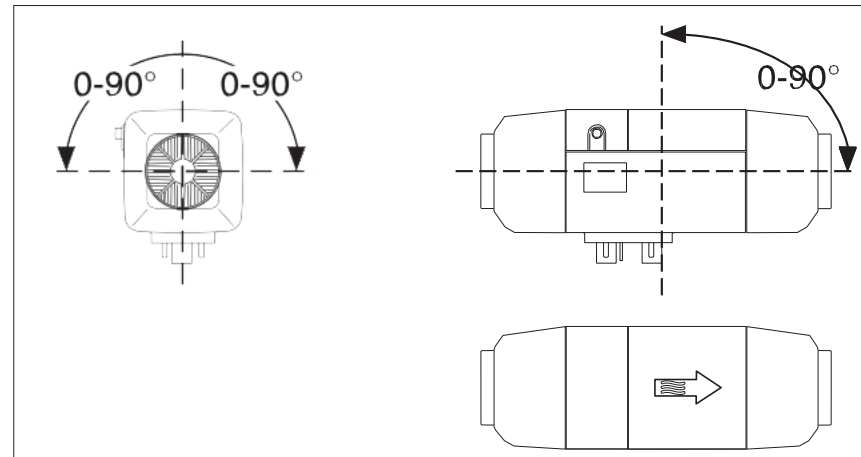

Fig. 8 Permissible installation positions of diesel-operated air heaters
- Do not exceed inclination angle (see Fig. 8).